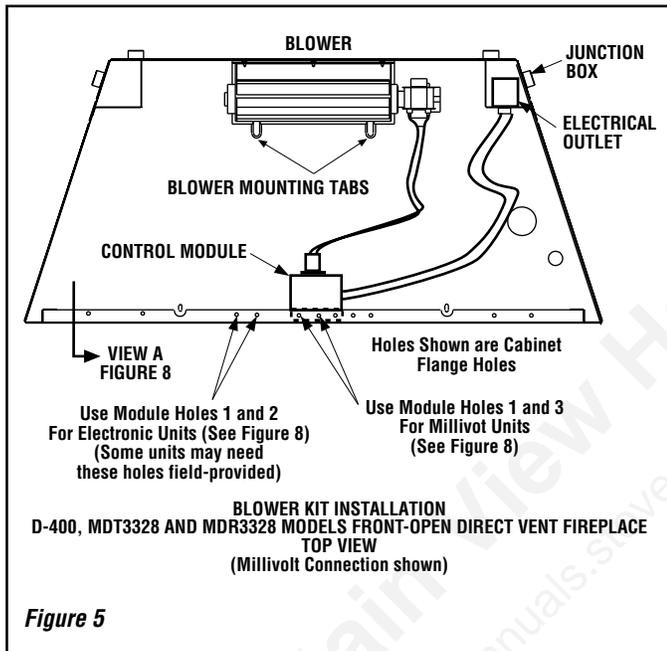

Figure 5
- d** - see **Figure 5** for *D-400, MDT3328 AND MDR3328 units*;